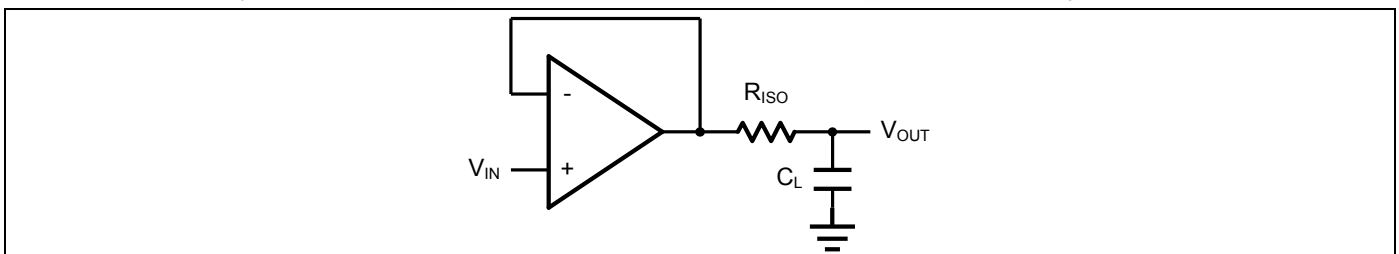
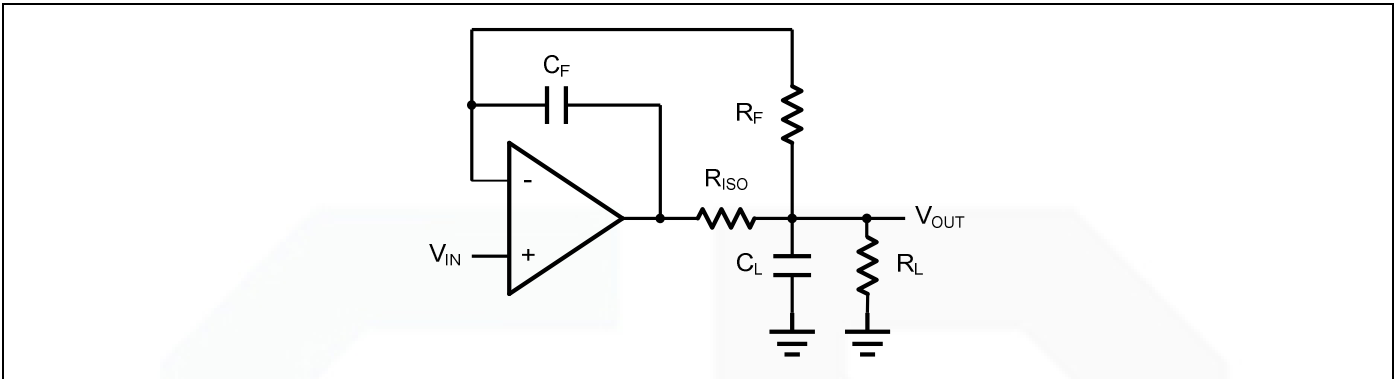

Figure 2. Indirectly Driving a Capacitive Load Using Isolation Resistor
Figure 3. Indirectly Driving a Capacitive Load with DC Accuracy
The GS863x family is optimized for bandwidth and speed, not for driving capacitive loads. Output capacitance will create a pole in the amplifier's feedback path, leading to excessive peaking and potential oscillation. If dealing with load capacitance is a requirement of the application, the two strategies to consider are (1) using a small resistor in series with the amplifier's output and the load capacitance and (2) reducing the bandwidth of the amplifier's feedback loop by increasing the overall noise gain. Figure 2. shows a unity gain follower using the series resistor strategy. The resistor isolates the output from the capacitance and, more importantly, creates a zero in the feedback path that compensates for the pole created by the output capacitance.
The circuit in Figure 3 is an improvement to the one in Figure 2. R_F provides the DC accuracy by feed-forward the V_{IN} to R_L . C_F and R_{ISO} serve to counteract the loss of phase margin by feeding the high frequency component of the output signal back to the amplifier's inverting input, thereby preserving the phase margin in the overall feedback loop. Capacitive drive can be increased by increasing the value of C_F . This in turn will slow down the pulse response.